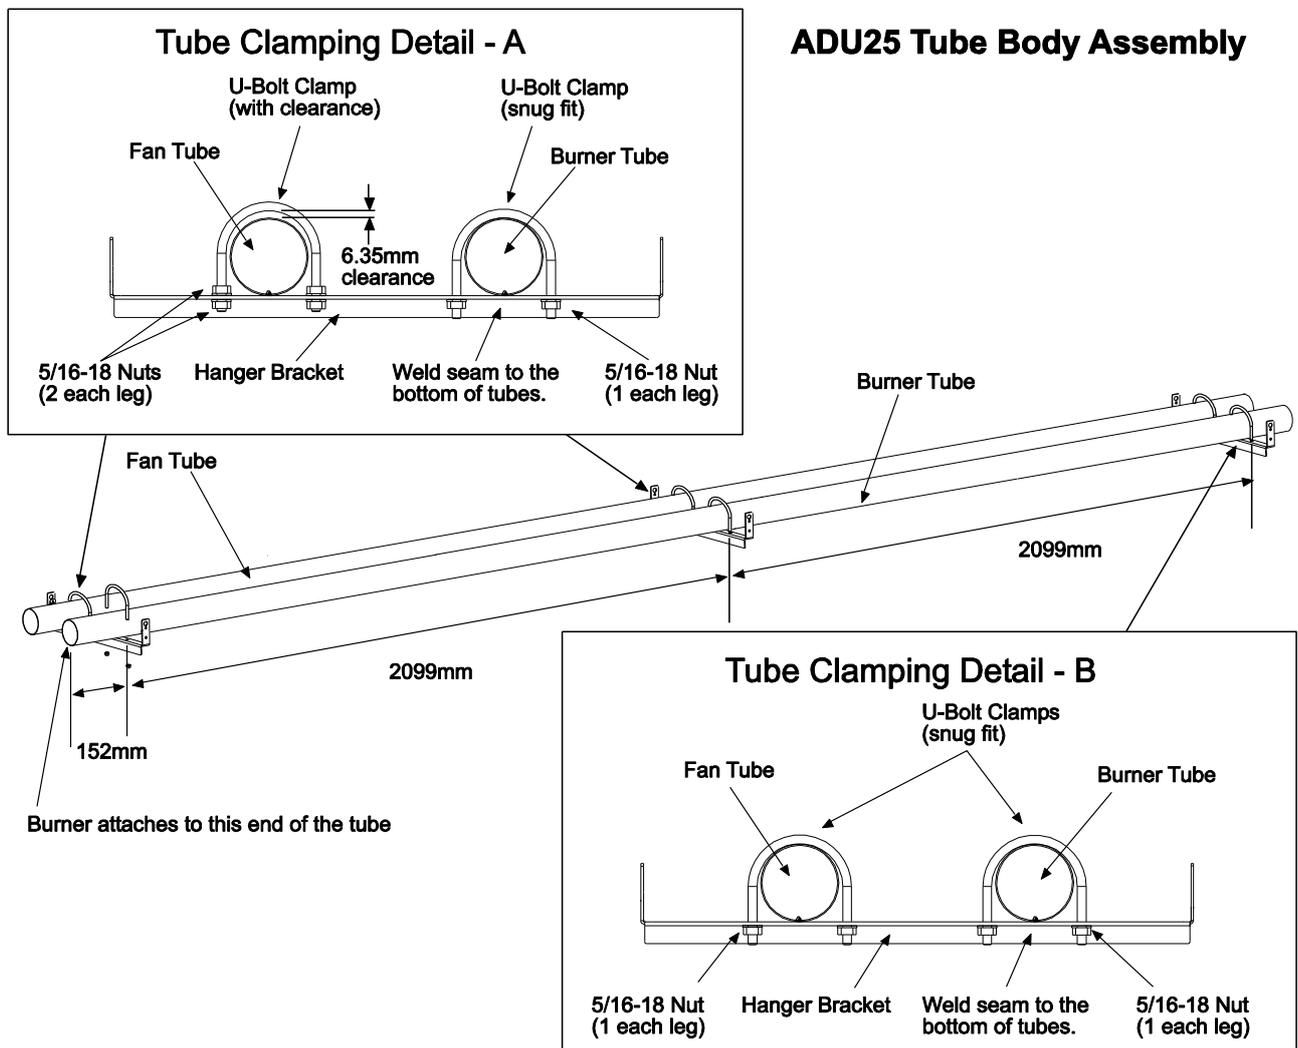
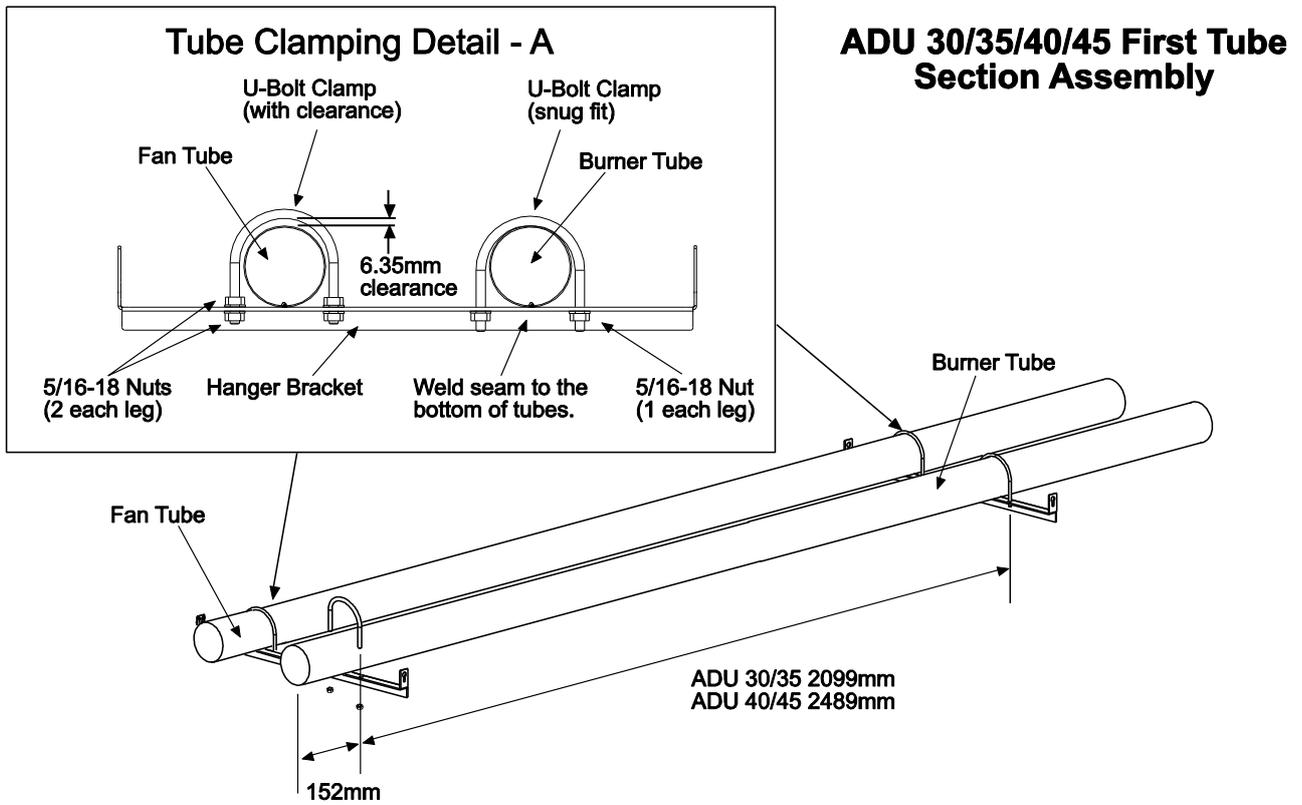

Fig. 21
Fig. 21a
3. Space the **hanger brackets** according to the dimensions shown in the figures below for the first tube section. **Note:** The distances are measured from center of the holes of each support/hanger bracket. See figure 21 below for ADU25 and Figure 21a for ADU30/35/40/45. (Note for ADU25 install all three hanger brackets).
- II. Secure the tubes to each support/hanger bracket using U-bolt clamps and 5/16-18 nuts provided. See **Details A or B** of Fig. 21 and 21a for required U-bolt tightening sequence.